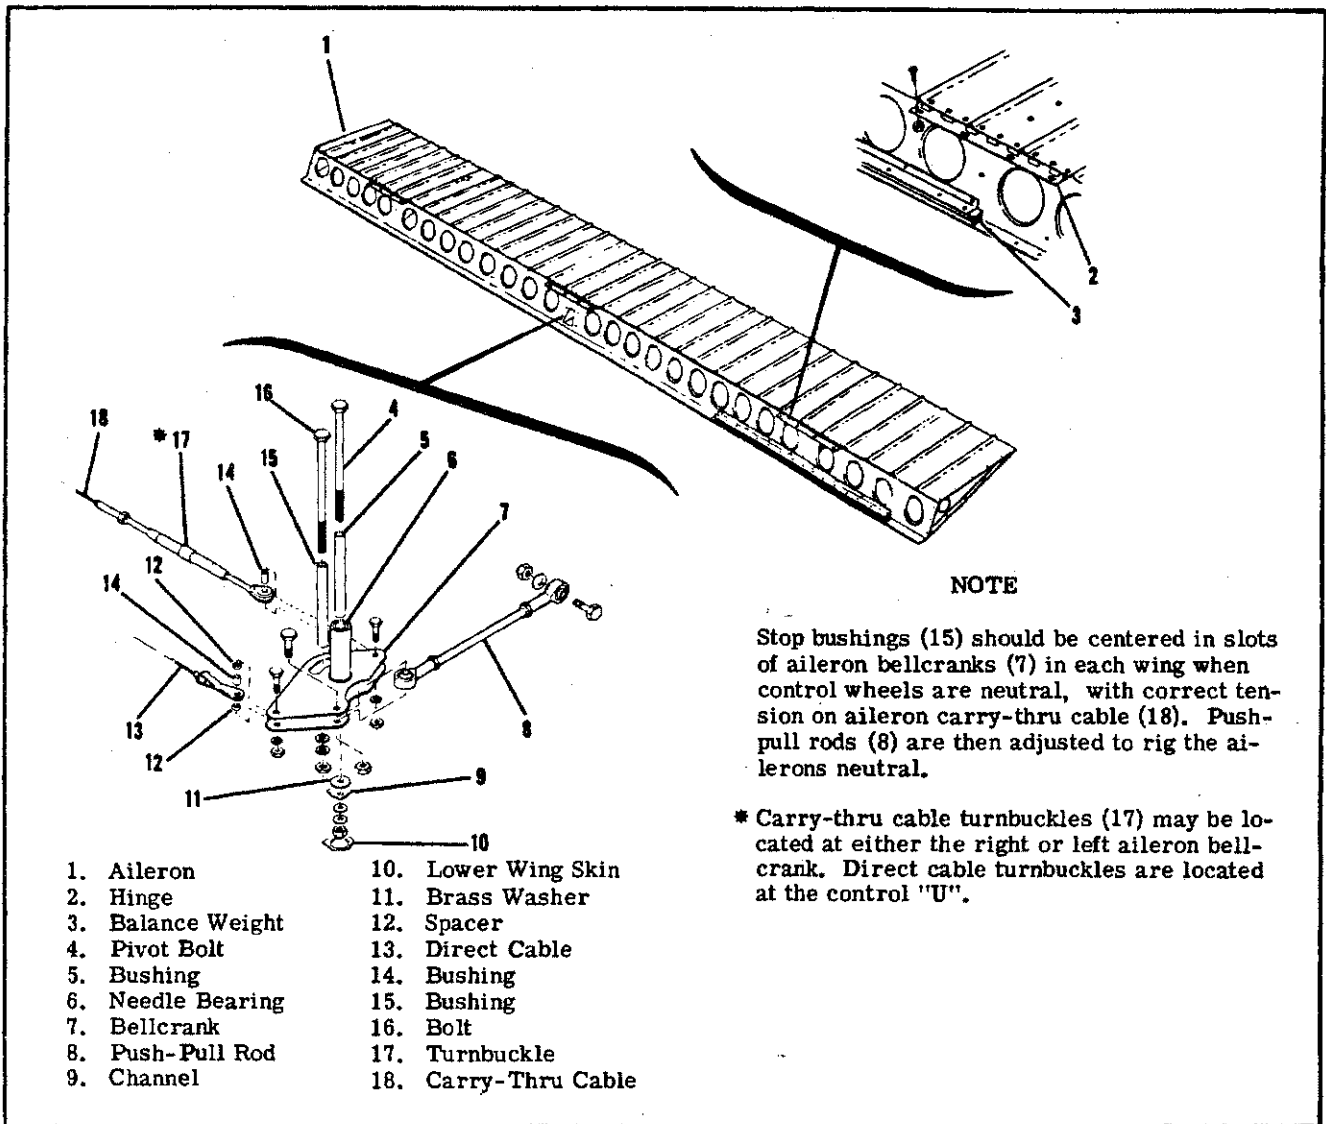

Figure 6-3. Aileron Installation
6-8. AILERON BELLCRANK. (Refer to figure 6-3.)
6-14. AILERONS. (Refer to figure 6-3.)
e. Adjust direct cable turnbuckles (17) below control "U" and single carry-thru turnbuckle (index 17, figure 6-3) at aileron bellcrank (index 7, figure 6-3) so bellcrank stop bushings (index 15, figure 6-3) are centered in both bellcrank slots with  $40 \pm 10$  pounds tension on aileron carry-thru cable (index 18, figure 6-3). Disregard tension on direct cables, which will be different than tension on carry-thru cable.
f. Adjust push-pull rods (index 8, figure 6-3) at each aileron until ailerons are neutral with reference to trailing edge of wing flaps. Be sure wing flaps are fully up when making this adjustment.